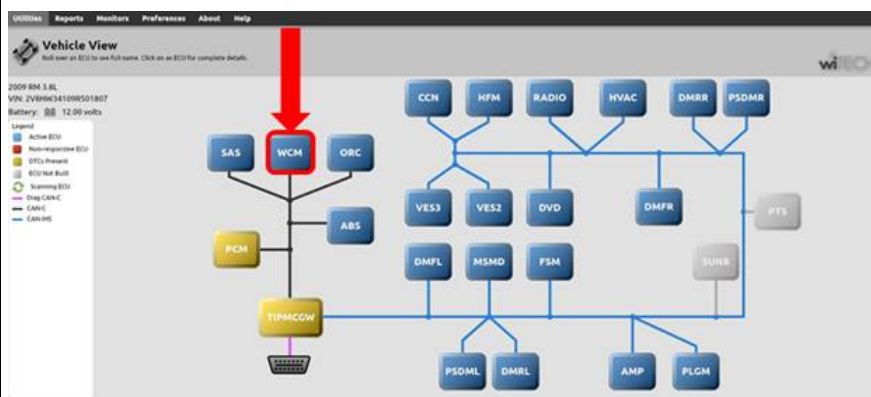

Figure 1
1. Select the WCM (Wireless Control Module) from the Vehicle View screen (Figure 1).